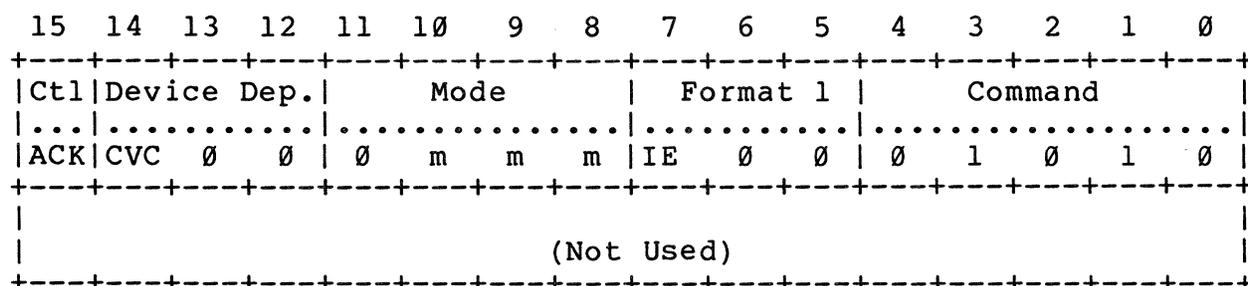

Figure 3-26 Control Command Packet
3.3.4.8 Control Command -- Figure 3-26 illustrates the Control command packet. There are three normal modes (Message Buffer Release, Rewind and Unload, and NO-OP) and one additional mode, (Rewind with Immediate Interrupt). The Control command is characterized by the fact that termination (and an interrupt if the IE bit is set) occurs immediately at the start of the command.